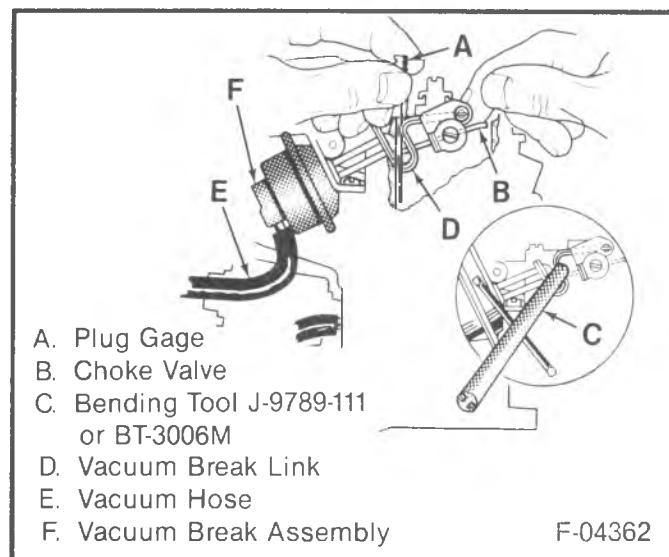

Figure 42 – Vacuum Break Adjustment
- If an adjustment is needed, bend the vacuum break link at the point shown in inset, Figure 42.